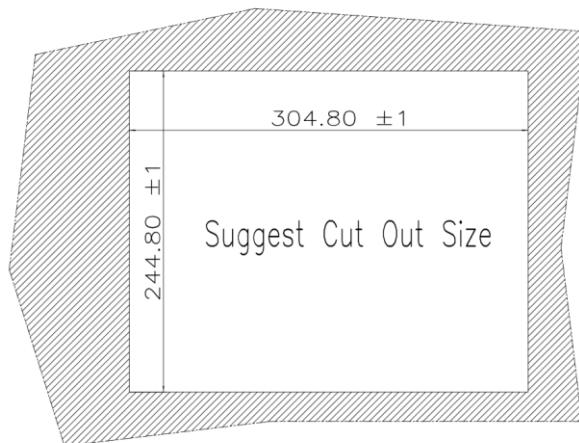
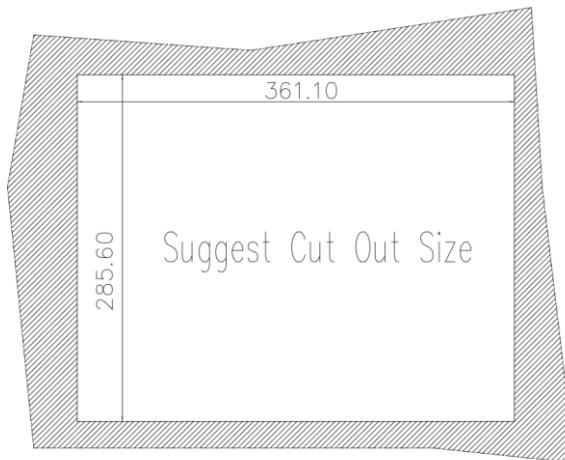
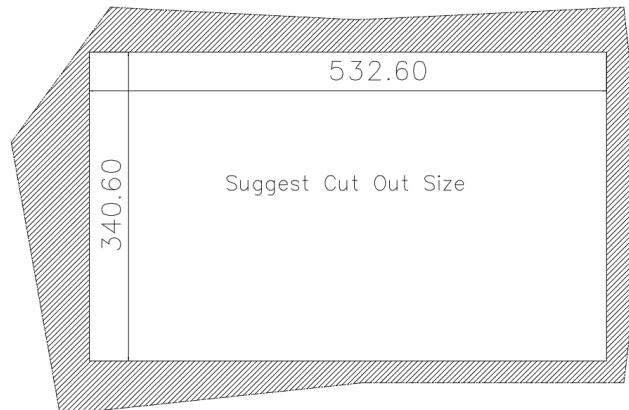

Figure 3-16: PPC2-C12-EHL Panel Cutout Dimensions
Figure 3-17: PPC2-C15-EHL Panel Cutout Dimensions
Figure 3-22: PPC2-CW22-EHL Panel Cutout Dimensions
Step 2: Cut out a section of the panel that corresponds to the rear panel dimensions of the PPC2-Cxxx-EHL Series. The recommended cutout sizes are shown below (**Figure 3-14**, **Figure 3-15** , **Figure 3-16** , **Figure 3-17** , **Figure 3-18**, **Figure 3-19** , **Figure 3-20** , **Figure 3-21** , **Figure 3-22**).